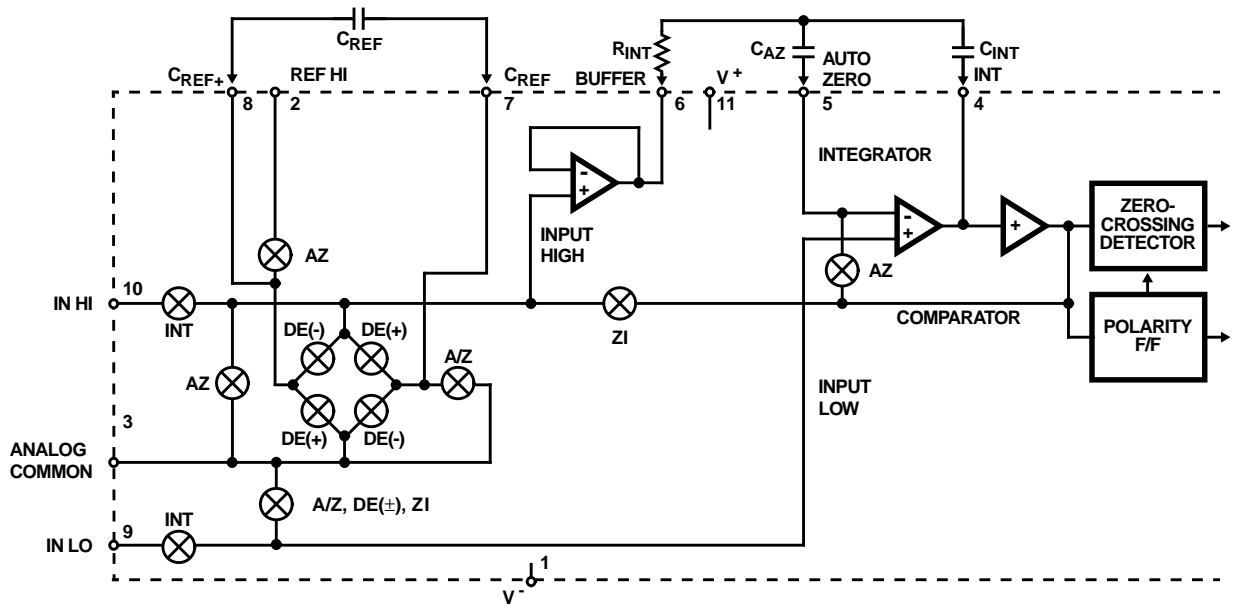

FIGURE 3. ANALOG SECTION OF ICL7135
3. Tested in 4¹/₂ digit (20,000 count) circuit shown in Figure 3. (Clock frequency 120kHz.)
Figure 3 shows the Block Diagram of the Analog Section for the ICL7135. Each measurement cycle is divided into four phases. They are (1) auto-zero (AZ), (2) signal-integrate (INT), (3) de-integrate (DE) and (4) zero-integrator (ZI).